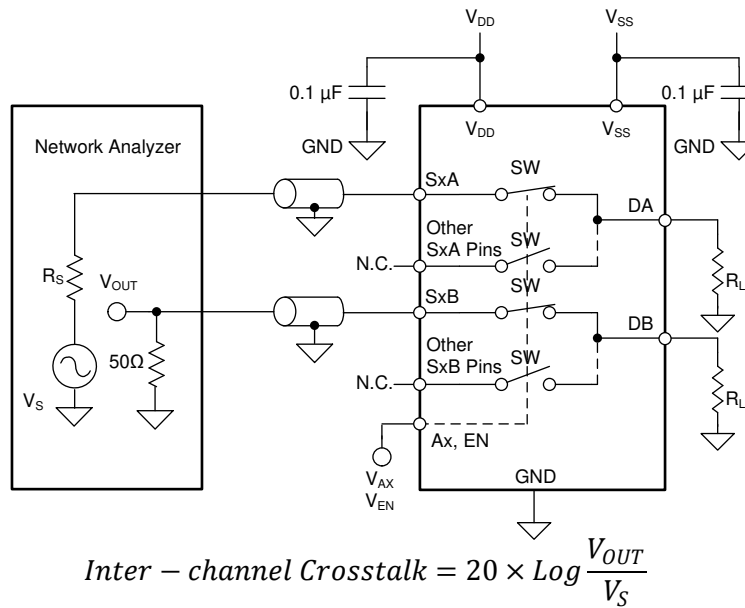

Figure 8-14. Inter-channel Crosstalk Measurement Setup
2. Inter-channel crosstalk ($X_{TALK(INTER)}$): the voltage at the source pin (S_x) of an on-switch input, when a $1-V_{RMS}$ signal is applied at the source pin of an on-switch input in a different channel, as shown in Figure 8-14. Inter-channel crosstalk applies only to the TMUX7309F device.